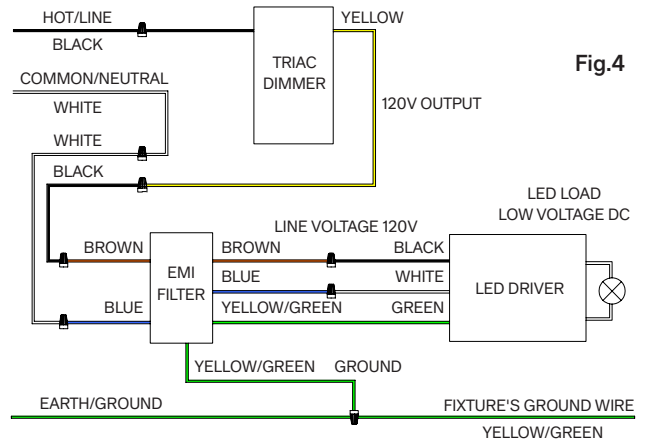
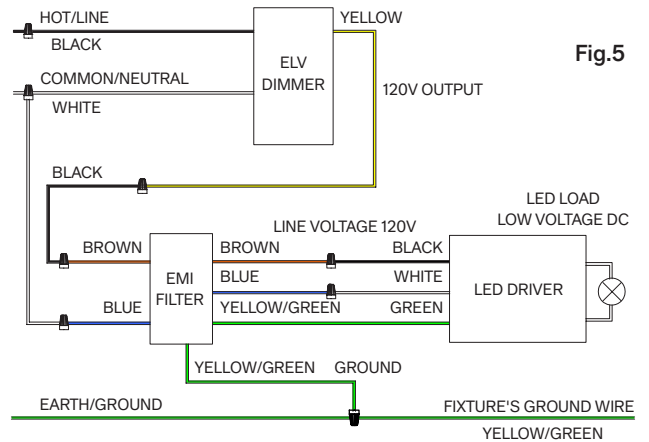

Fig.4
Fig.5
14. Connect the GROUND WIRES from the fixture with the ground wire (usually bare) from your outlet box using a Wire Nut (U). If your house does not have a ground wire, attach the GROUND WIRE from the fixture to the green grounding screw inside of the outlet box. IT IS IMPERATIVE THAT THE OUTLET BOX IN YOUR HOME BE PROPERLY GROUNDED.
15. FOR DIMMING, choose a Wall Dimmer (see Fig. 3) and follow the WIRING DIAGRAM to inspect and connect the wires according to the Dimming Function (TRIAC see fig. 4 or ELV see fig. 5) of your Dimmer.